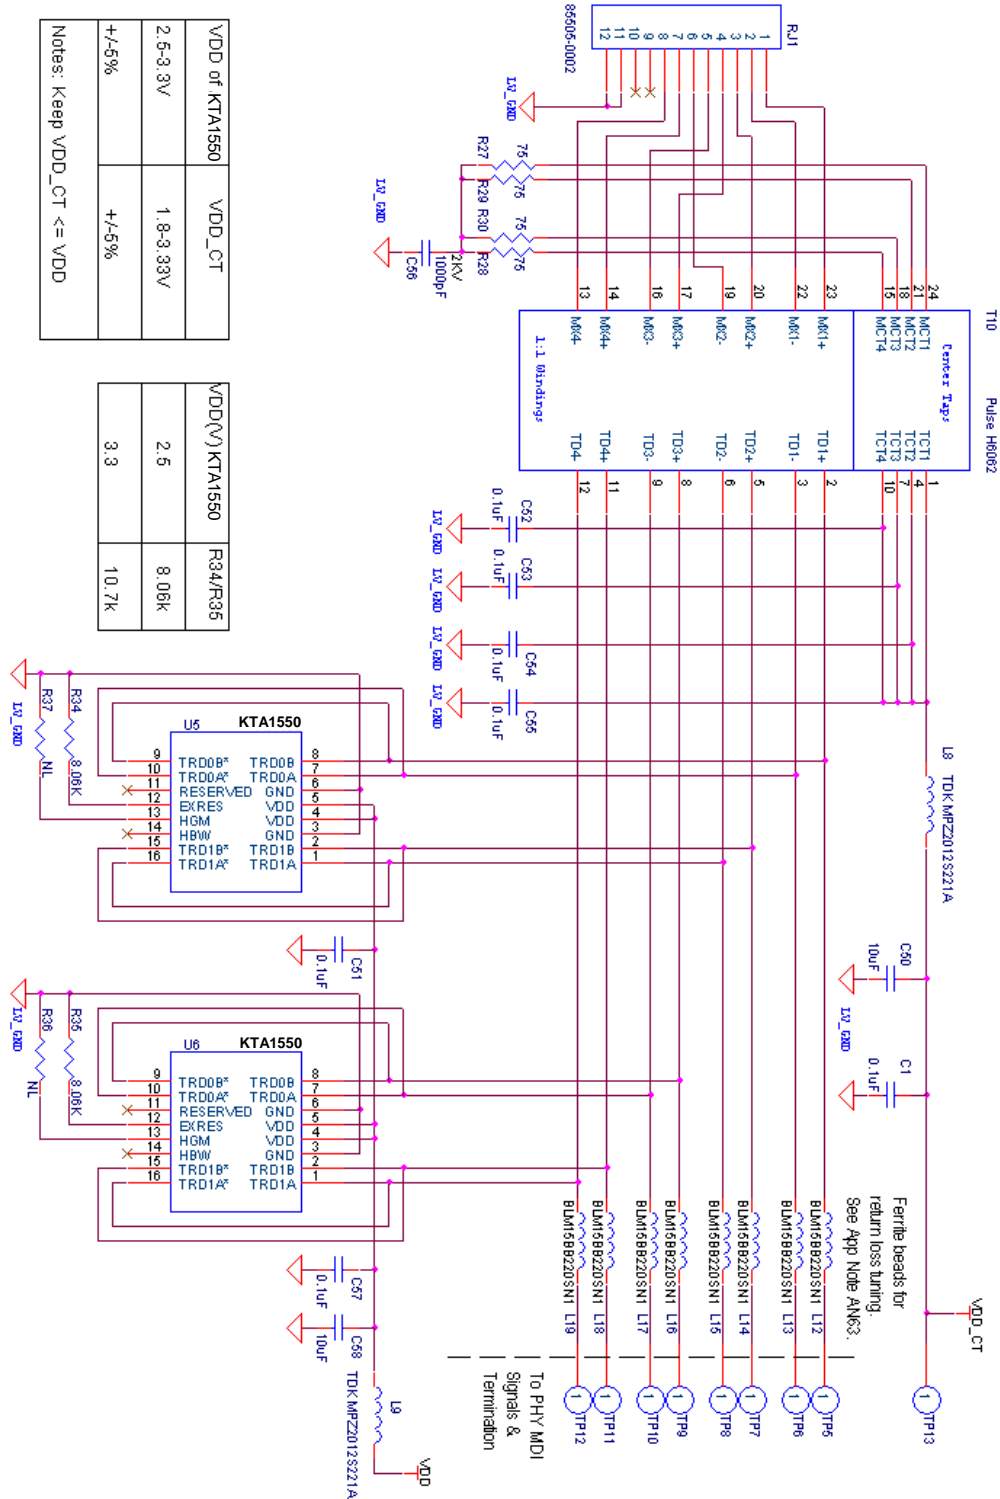

Figure 2. GbE Application Diagram using KTA1550
Following are the recommendations. Please refer to Figure 2 as the baseline typical application diagram for KTA1550 usage in GbE Application.
6. All four KTA1550 VDDs can share the same supply filter and bulk capacitor, L9/C58 in Figure 2.
8. Figure 3 shows actual layout of Figure 2 in GbE application. As seen, the KTA1550 pinout has been designed for very clean and through routing of Ethernet signals so that the addition of the KTA1550 footprint does not create any stubs on the Ethernet signals.